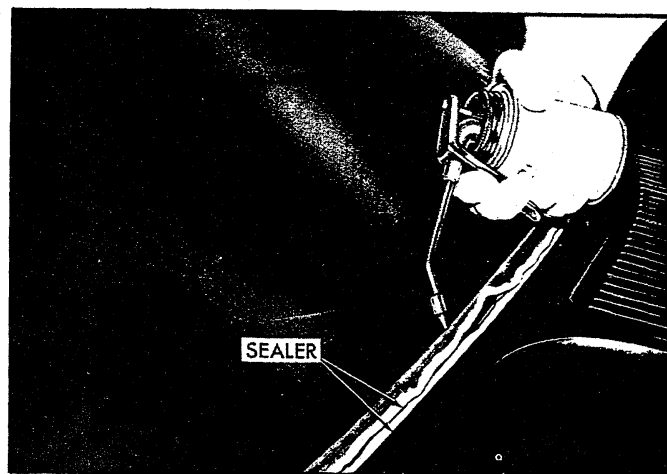

Fig. 23—Applying Sealer and Cement
8. Apply 2 beads of sealer on outer surface of weatherstrip as shown in Figure 23. Inject a moderate quantity of windshield cement such as 3M-6699B between windshield glass and weatherstrip using pressure gun as shown in Figure 23.